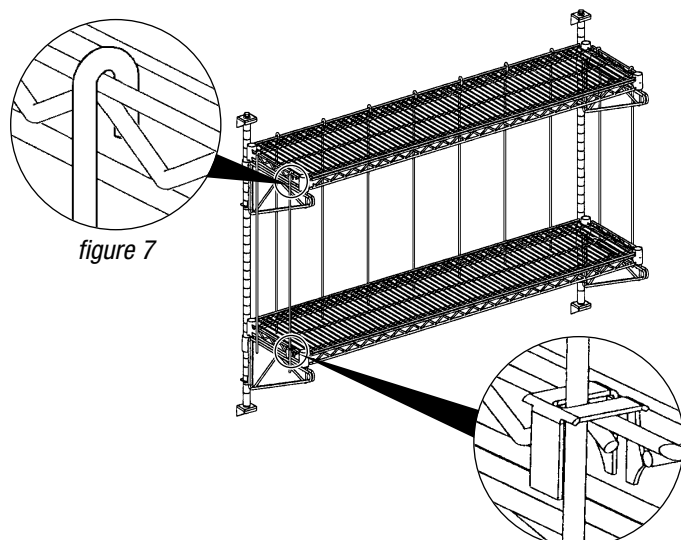

figure 7
- Hook the rods where desired onto the outside of the top shelf (see figure 7).